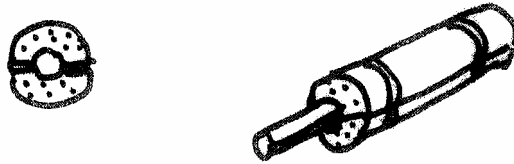

Figure 10.28 – Integrated solar water heater
- ❖ Consider the use of solar water heaters. *Fig10.28*